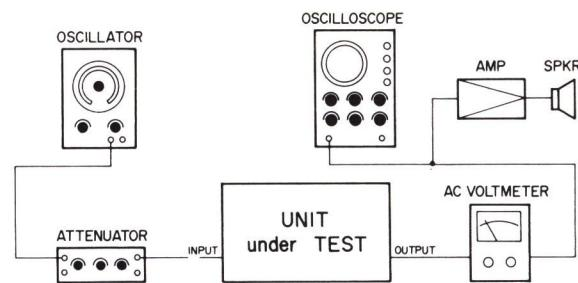

Fig. 7-1
Connect an oscilloscope and a VTVM to the OUTPUT terminals as shown in Fig. 7-1. Play test tape MTT-150 to check that the phase difference between the L and R channels is less than 45°.
- a. Connect the measuring instruments as shown in Fig. 7-1.
- 1) Connect the measuring instruments as shown in Fig. 7-1.